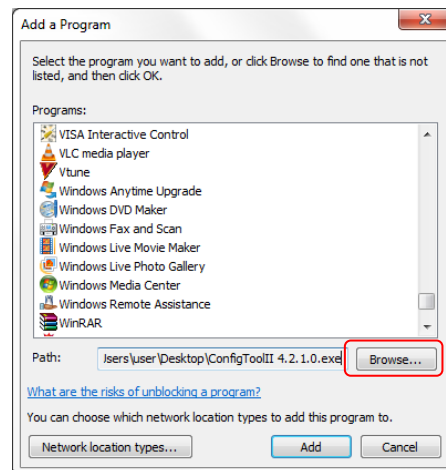

Figure 88 - Browsing for executable to add
5. Click the “Browse...” button. Refer to Figure 88.